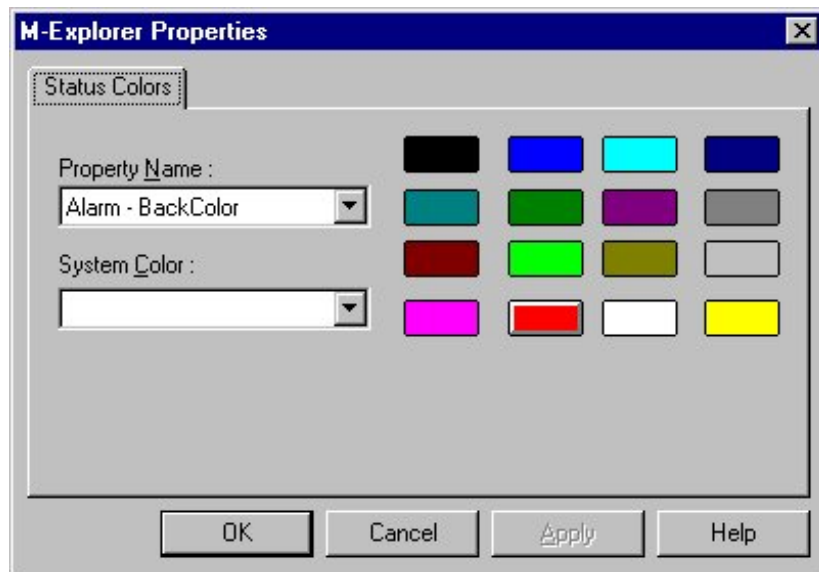

Figure 3-5: M-Explorer Properties Window
1. From the View menu, select StatusColors. The M-Explorer Properties window appears (Figure 3-5).